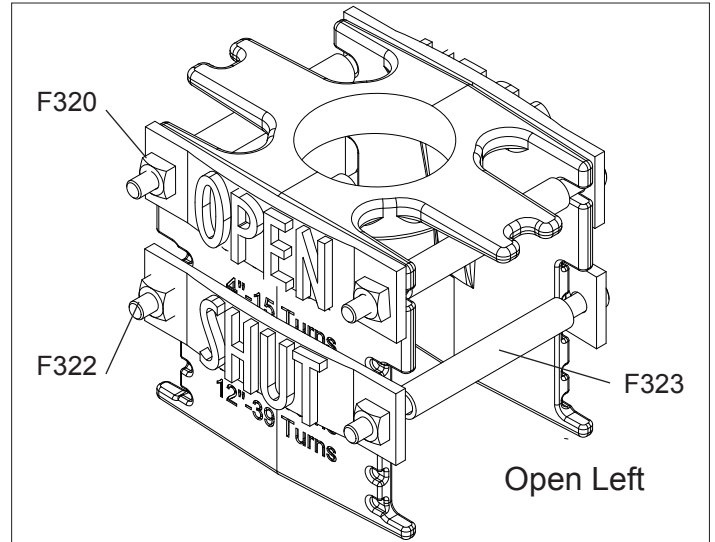

Fig. 2B
For an "open left" valve the "OPEN" sign should be mounted above the "SHUT" sign. (Fig. 2B) For an "open right" valve the "SHUT" sign should be mounted above the "OPEN" sign. (Fig. 2C).
3. If the Post Indicator is to be mounted on an open left valve, the "OPEN" Plate (F321) remains in the top position of the Target (F318). (See Fig. 2B).
**NOTE:** For an "open left" valve the "OPEN" sign should be mounted above the "SHUT" sign. (Fig. 2B) For an "open right" valve the "SHUT" sign should be mounted above the "OPEN" sign. (Fig. 2C) In September 2010, American AVK switched series 34 post indicators from a preset 4-inch valve to a preset 6-inch valve. Refer to "ADJUSTING THE TARGET (FOR SERIES 3400 TYPE INDICATORS):"